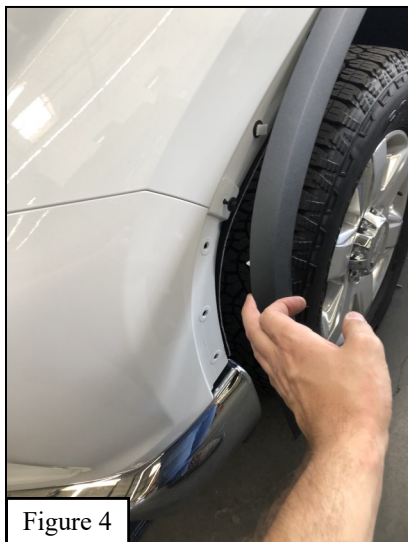

Figure 4
5. Pry off fenders to access the filler panel clips. See **Figure 4** for reference.